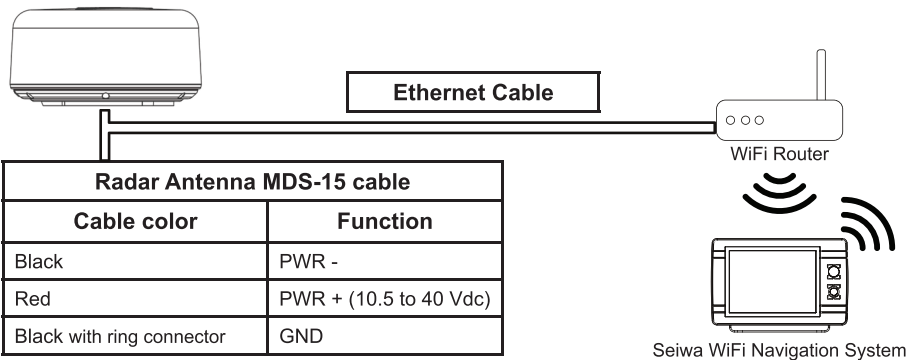

Figure 6.1. - Connections
4. Connect the radar MDS-15 to correct power source as shown on figure 6.1.